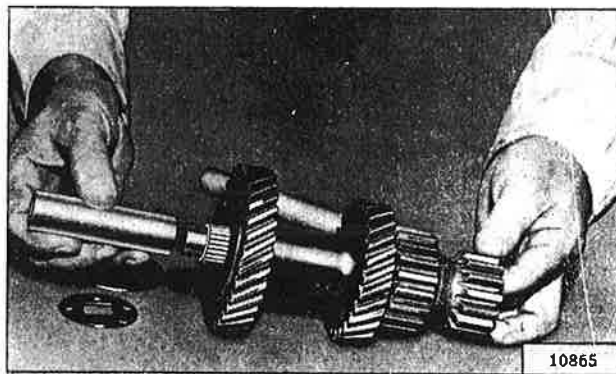

FIG. 187—COUNTERSHAFT GEAR BEARING ARBOR
e. Assemble the spacer, six washers, and four countershaft needle bearings in the countershaft gear hub, using special tool W-193 with loading sleeve, as shown in Fig. 187 and 191. Place the spacer inside the hub and insert the special tool in the spacer. Place a washer at each end of the spacer and load a set of bearing rollers at each end. Then add a washer, a set of bearing rollers, and finally another washer at each end to complete the assembly. Place the countershaft gear assembly in the case but do not install the countershaft until the mainshaft and main drive gear are installed.